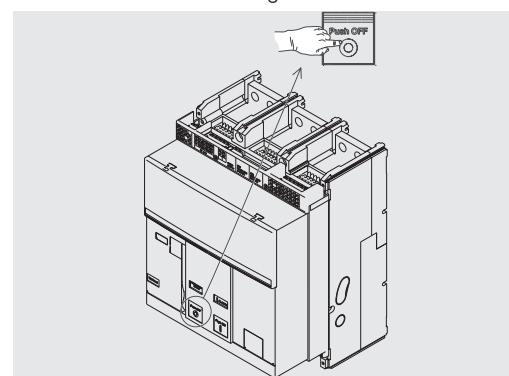

Figure 46
6. Opening - Press the opening pushbutton "O - Push OFF" as indicated in Figure 46.